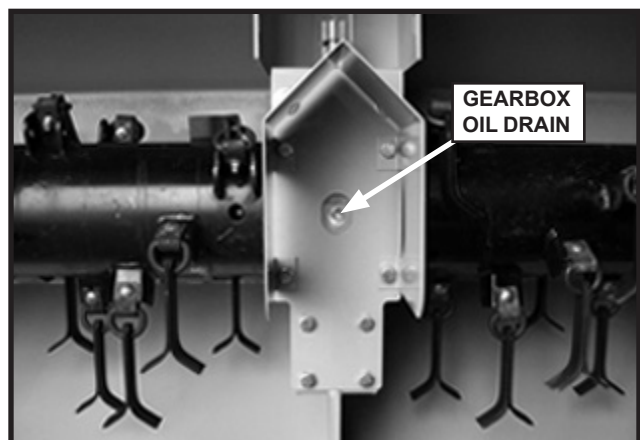

Figure 38. Drain Plug (underside of unit)
5. Place a pan under drain plug. Remove drain plug and dip stick plug (see Figure 38).